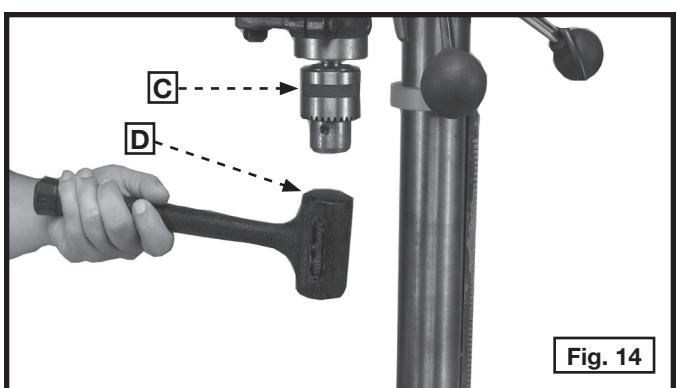

Fig. 14
IMPORTANT: Open the chuck jaws as wide as possible by turning the chuck sleeve (C) Fig. 14.
11. Place the chuck (C) Fig. 14 on the taper of the spindle and tap it with a rubber hammer (D) or a block of wood and hammer.